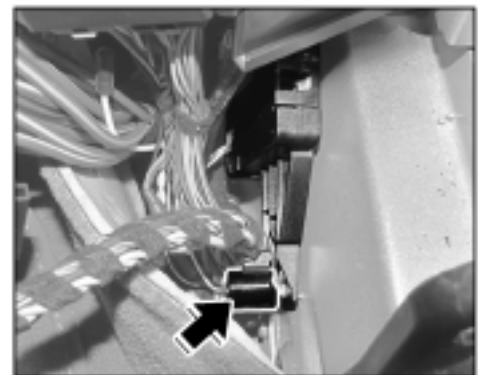

Figure 36
5.6.1 Pull fixing clip ⇒ *Figure 36 -arrow-* for the standard wire harness off the threaded bolts.
Fit fixing clip ⇒ *Figure 36 -arrow-* for the standard wire harness on the threaded bolts.